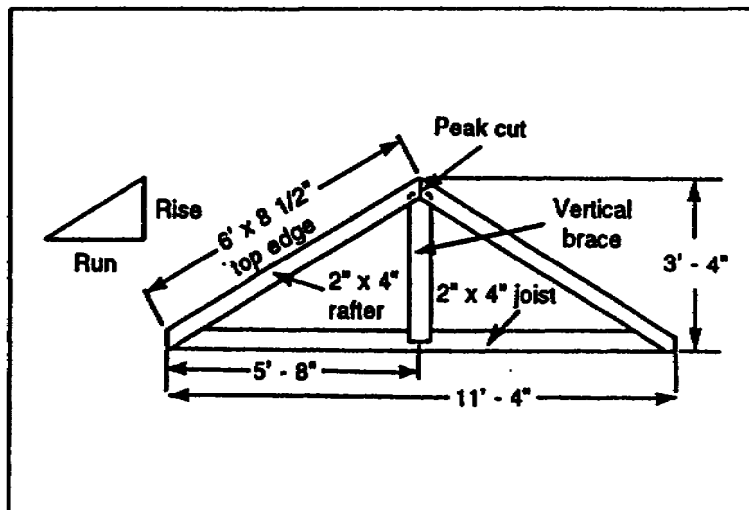

Figure 3-22. Truss layout
- (1) Build the truss on workbenches that are paced on a level spot on the ground.
- (2) Obtain the measurement of all material from the blueprints.
- (3) Lay the pieces in their correct position to form a truss.
- (4) Nail them together temporarily (see Figure 3-22).
- (5) Lay out the location of all holes to be bored.
- (6) Bore the holes to the size called for on the blueprint.
- (7) Dismantle the truss and withdraw the nails after the holes have been bored.